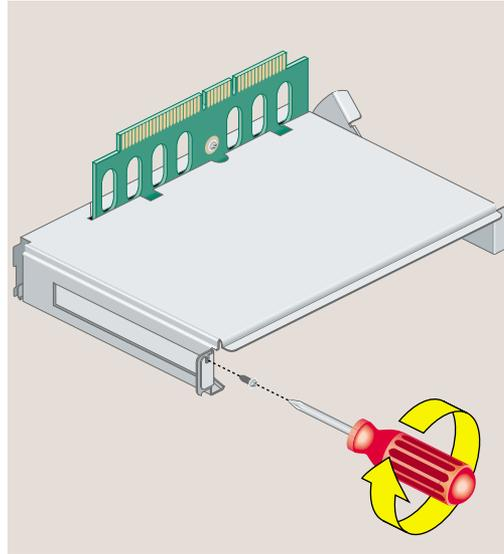

Figure 2-23 Replacing the Filler Panel and Screw on the PCI Tray
5. If you are installing another PCI board, see “Installing a PCI Board: R5000 Workstation” on page 34. Otherwise, replace the filler panel and screw (Figure 2-23). (You removed the panel and screw when you installed the board.)